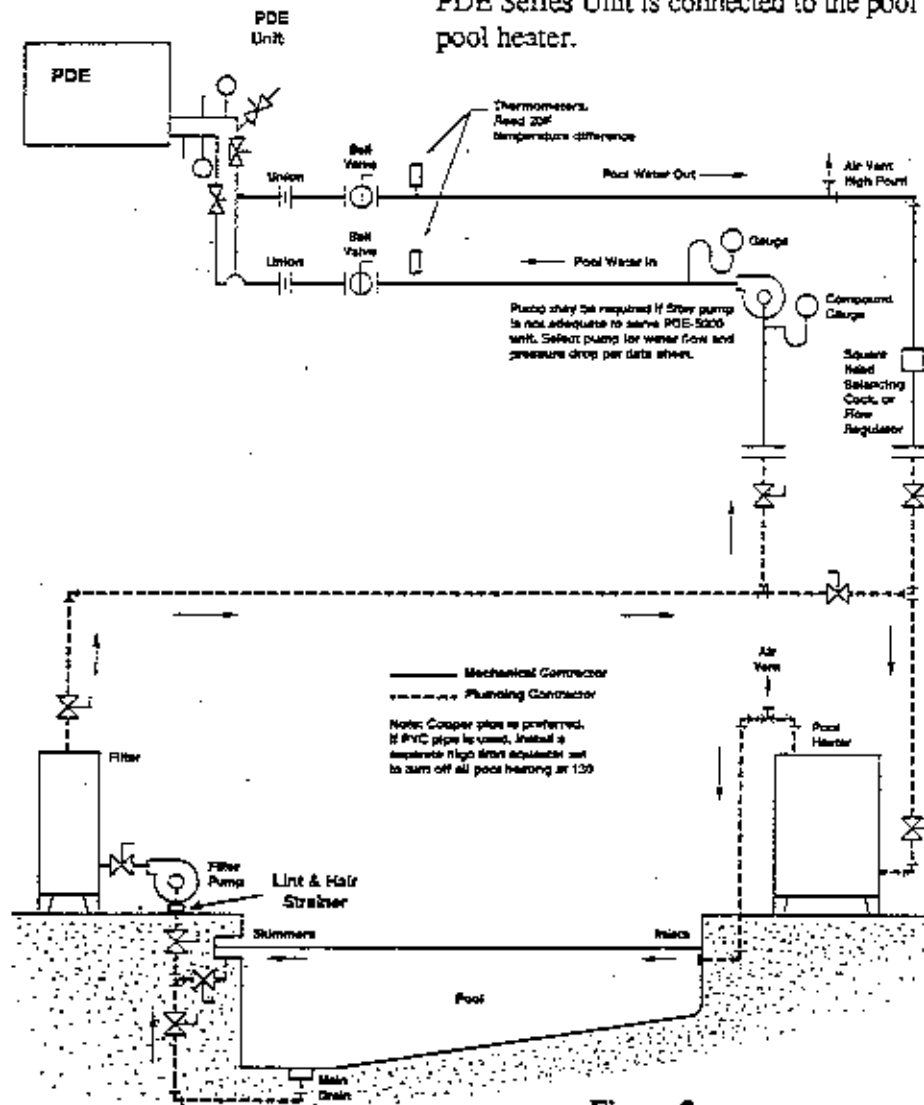

Figure 2
Referring to Figure 2 below, pipe Pool Water according to the following recommendations:
4. Connect the pump as shown in Figure 2 below. The return line from the PDE Series Unit is connected to the pool return line upstream of the pool heater.